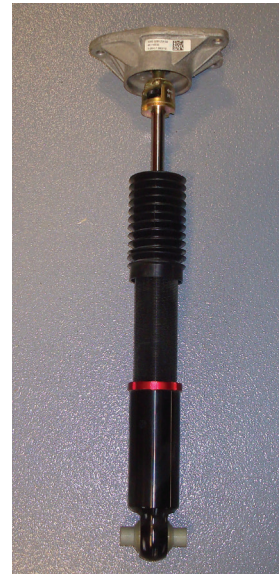

fig. D.17
4. Insert the supplied centering spacer (H) through the bottom of the control arm and bolt the air spring assembly to the spacer (H) with hex cap screw (L) and lock washer (I) Torque to 27Nm (20 lb.-ft.) (Figs. D.17 & D.18).